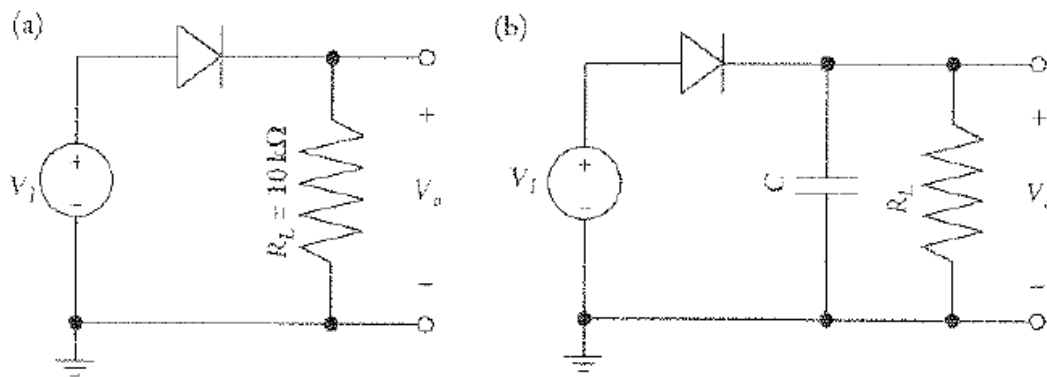

Figure 1: (a) Half-wave rectifier
The circuits are plotted below. For figure 1(a) and 1(b), plot the waves you calculated.
- ❑ Build the circuit shown above in Figure 1 using a diode provided by your teaching assistant and capacitors and resistors.
- ❑ For Half-wave rectifier, consider figure 1(a), simulate the circuit using a $10\text{-}V_{\text{pk-pk}}$ 1-kHz sinusoid generated by function generator, and a 1N4003 diode. Provide plot of V_I and V_o versus time.
- ❑ Consider the peak rectifier shown in Figure 1(b). Simulate the circuit using a $10\text{-}V_{\text{pk-pk}}$ 1-kHz input sinusoid for two following sets of parameters. For both simulations, provide a plot of V_I and V_o versus time, and report the peak voltage (V_p) and the ripple voltage (V_r)